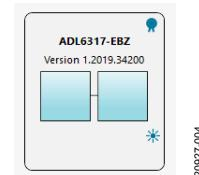

Figure 4. **ADL6317-EBZ** Board Icon
2. Double-click the **ADL6317-EBZ** board icon, as shown in Figure 4.